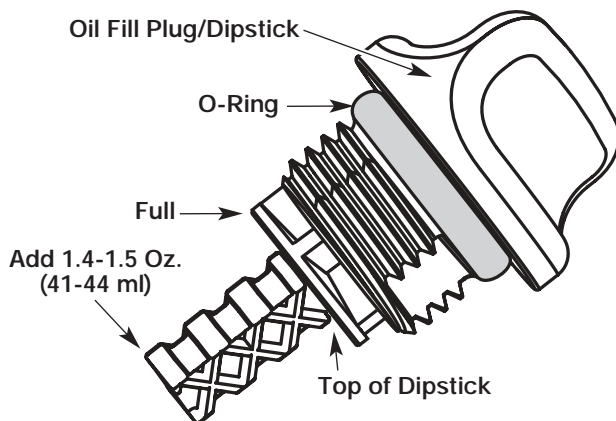
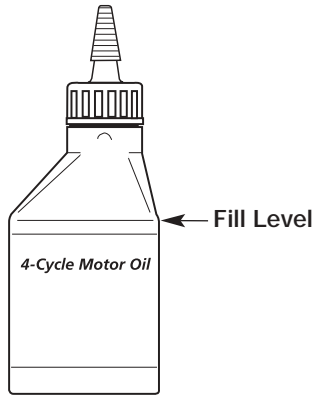

Fig. 18
Fig. 21
5. Remove the oil fill plug/dipstick and check oil level. Oil should be up to the top of the dipstick (Fig. 18).
6. If the level is low, add a small amount of oil to the oil fill hole and recheck (Fig. 18). Repeat until the oil level reaches the top of the dipstick.
**NOTE:** Use the bottle and spout saved from initial use to measure the correct amount. 3.4 ounce (100 ml) is approximately to the top of the label on the bottle (Fig. 21). Check the level with the dipstick. If the level is low, add a small amount of oil and recheck (Fig. 18). Do not overfill.